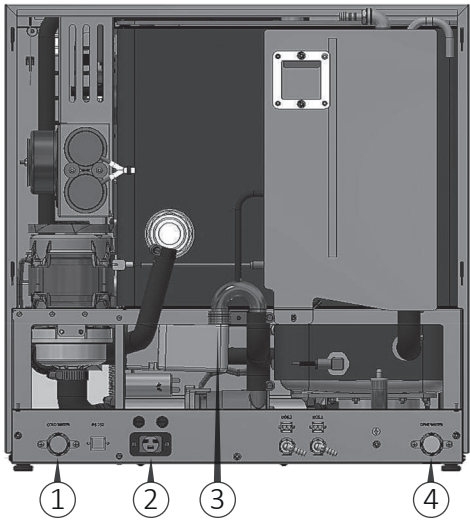

Fig. 8
- Make sure to connect the water flexible hoses in the positions shown in Fig. 8.
- Connect the water flexible hoses as shown in Fig. 8.
- 1) Connect the machine to water connections (Fig. 8).